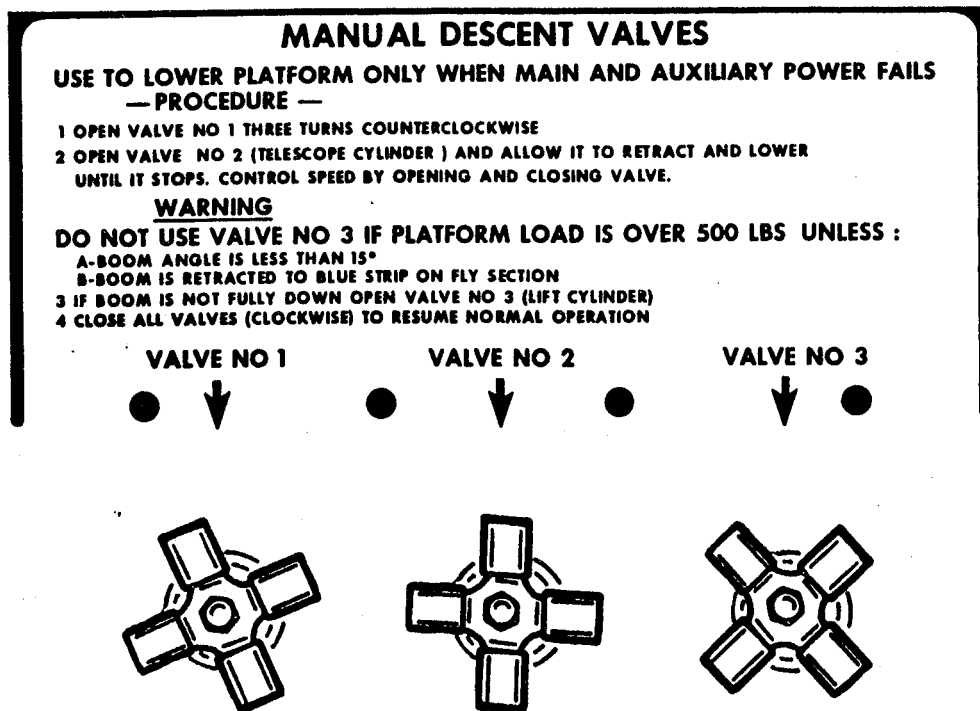

Figure 6-1. Manual Descent Valves
c. Manual Descent and Retraction. (Figure 6-1.)